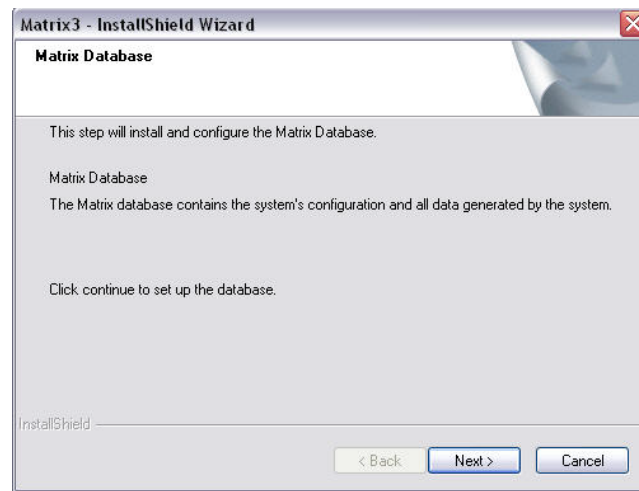

FIG. 8
10. When the Matrix Database setup screen (FIG. 8) displays, select NEXT to start the Database setup.